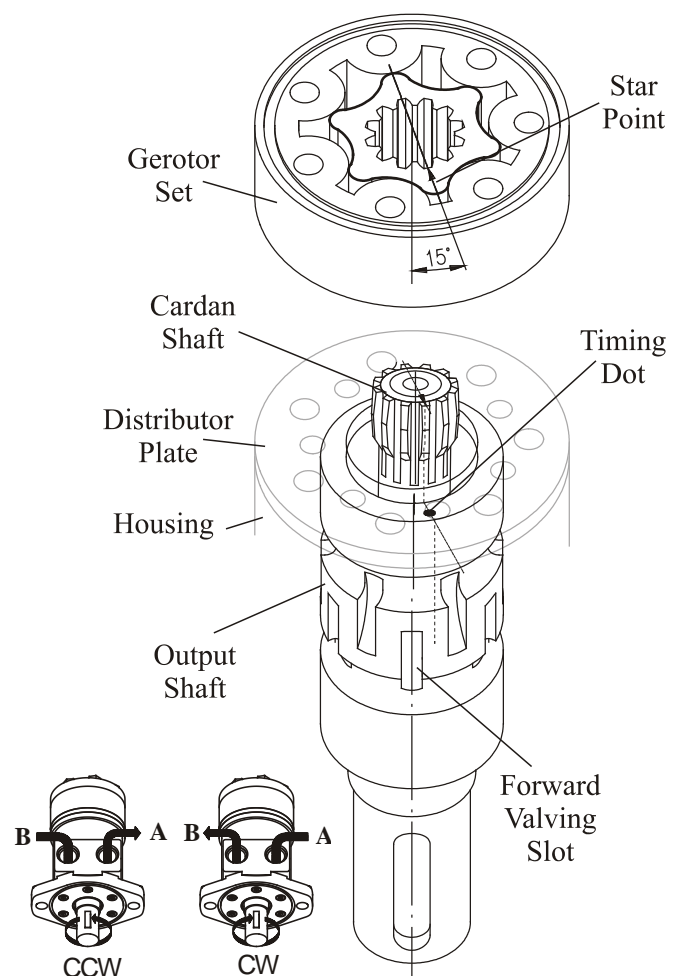

Fig.9
7. Place shaft seal in Flange and firmly push with Seal driver (see Fig.9).
17. Place gerotor set on distributor plate and align any star point with tooth marked on cardan shaft. Stepped bolt holes are facing with smallest diameter to the distributor plate (see Fig.9)